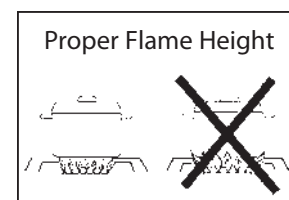

Fig. 23
- For safety reasons the flame must never extend beyond the bottom of the cooking utensil. Never allow flames to curl up the side of the pan (see Fig. 23).